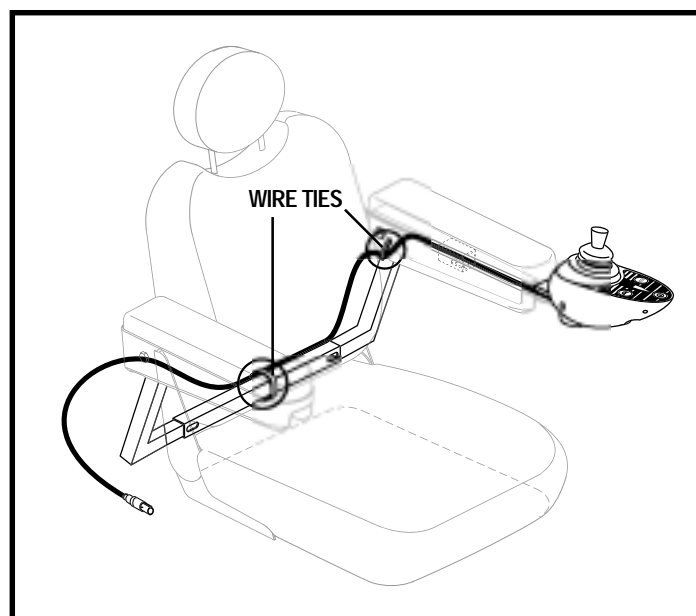

Figure 13. Remote Plus Controller Routed on a High-Back Seat
8. Secure the controller cable to the armrest receiver with wire ties. See figure 13.
9. Secure the controller cable to the armrest with wire ties. See figure 13.